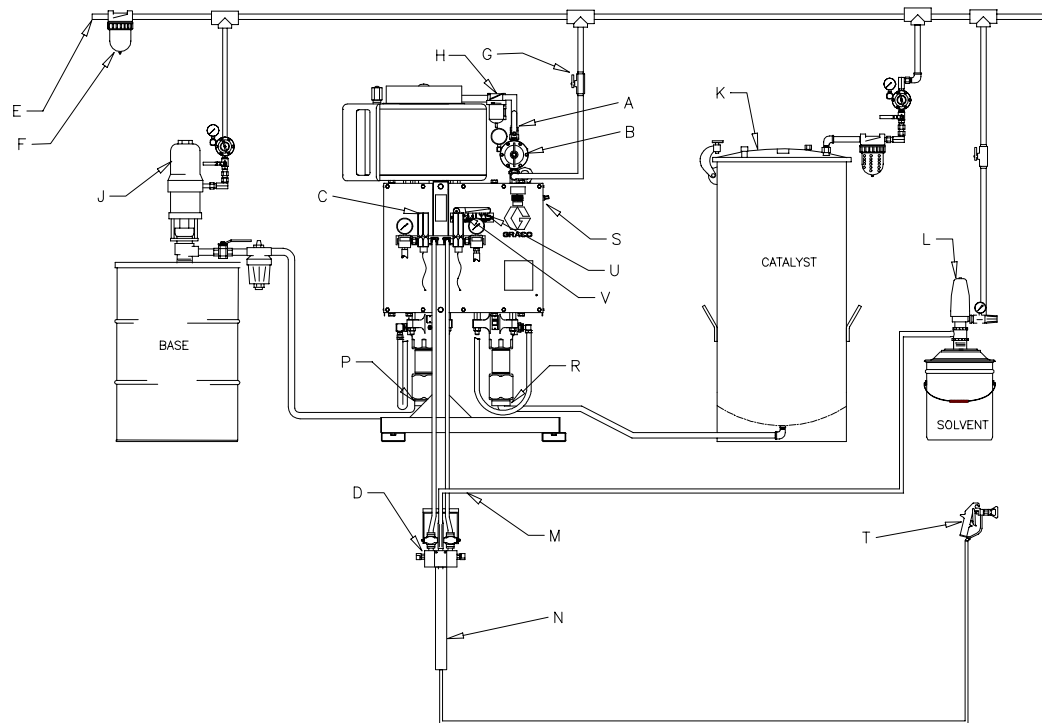

Fig. 2 Typical Installation
Refer to Fig. 2.
See Fig. 2. Use a wrench to rotate the ratio adjustment screw (S). Rotating the screw clockwise will increase the ratio. Rotating the screw counterclockwise will decrease the ratio. The indicator pin (V) will move along the ratio indicator scale (U) as the ratio adjustment screw is rotated. When the pin is above the desired ratio, remove the wrench and perform a ratio test as described on page 12.